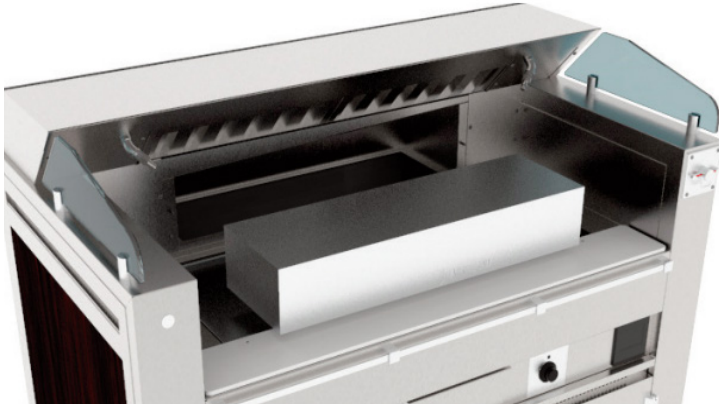

Figure 4
4. Remove the HEPA filter by lifting it up and sliding it out of the duct work **(Figure 4)**